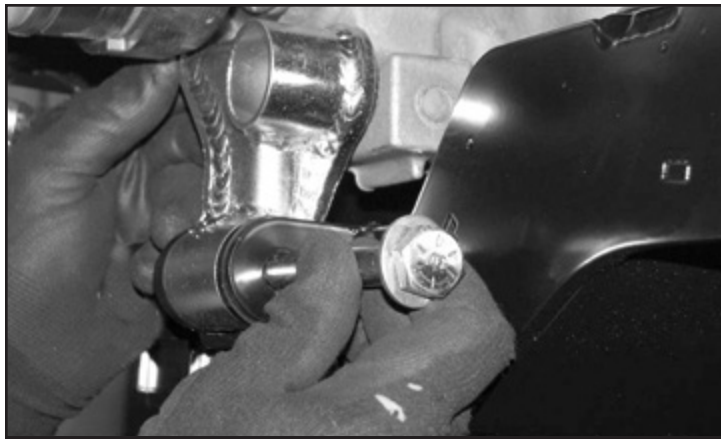

FIGURE 33 - STEP 30
30. Install the rear diff bracket into the tabs on the rear crossmember using a $\frac{1}{2}$ -13 x 4" bolt, washers, and nut. **SEE FIGURE 33**